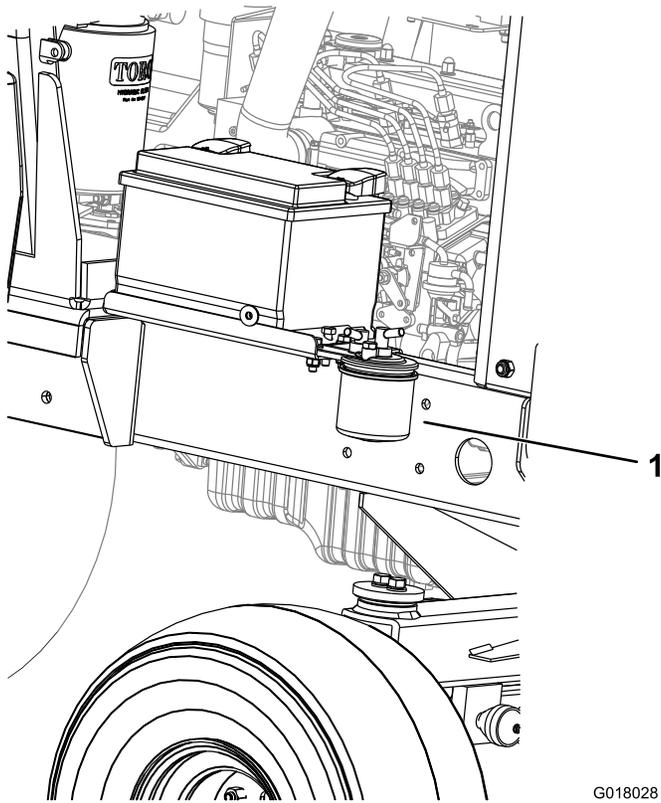

Figure 57
1. Place a clean container under the fuel filter canister (Figure 57).